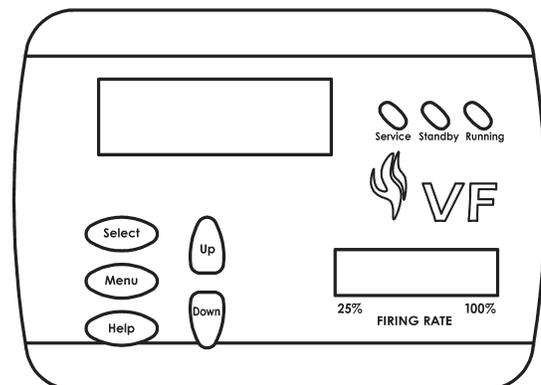

FIGURE 4. UIM, USER INTERFACE MODULE
- User Interface Module (UIM), see Figure 4.